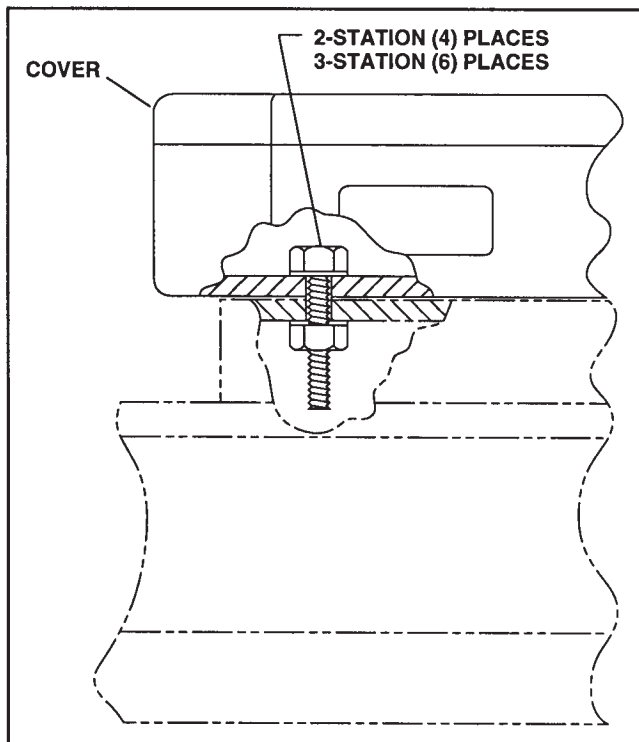

Figure 2
3. Disconnect the two (2) power leads coming from sprayhead.
5. Locate the attachment bolts, Figure 2.